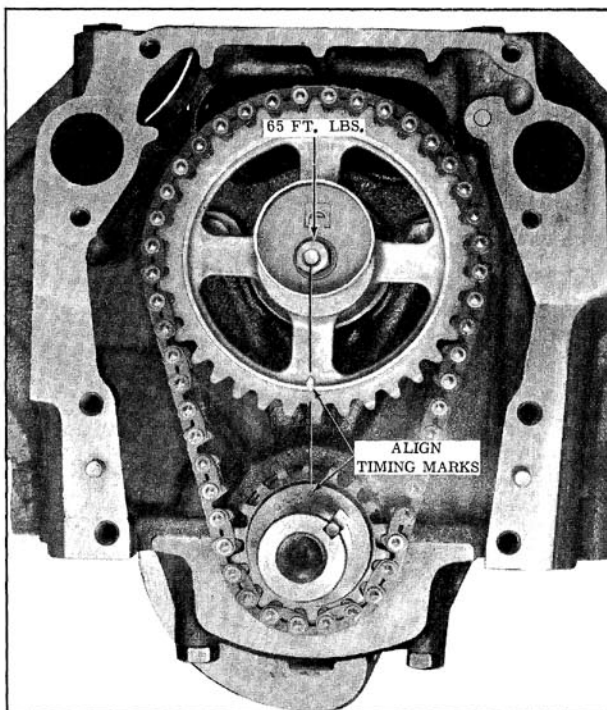

Fig. 3-93 Timing Gear Position
1. Install camshaft gear, crankshaft gear, and timing chain together, and align timing marks. (Fig. 3-93)